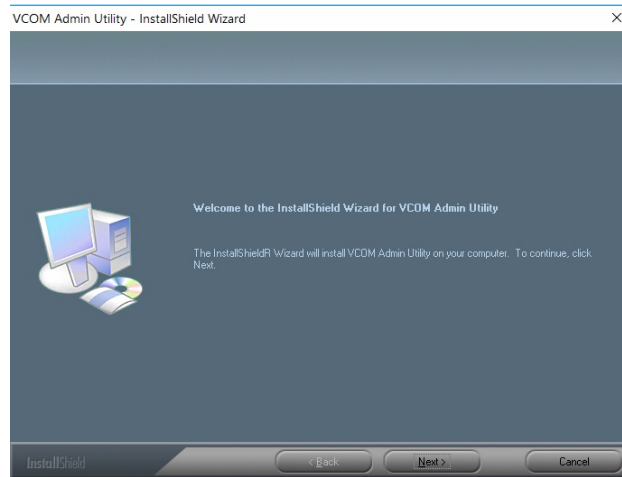

Figure 5-1-1 : Installing the VCOM Utility
1. When you run VCOM installer, a welcome window will appear as shown in Figure 5-1-1. Click Next to continue.